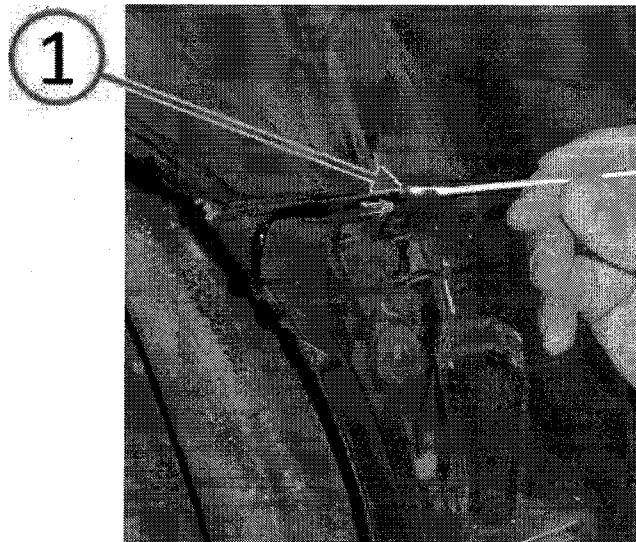

Fig. 5 Remove Any Excess Sealer
6. Using a cotton swab or equivalent tool, wipe away any excess sealer that may prevent installation of the rear fascia flange (Fig. 5).